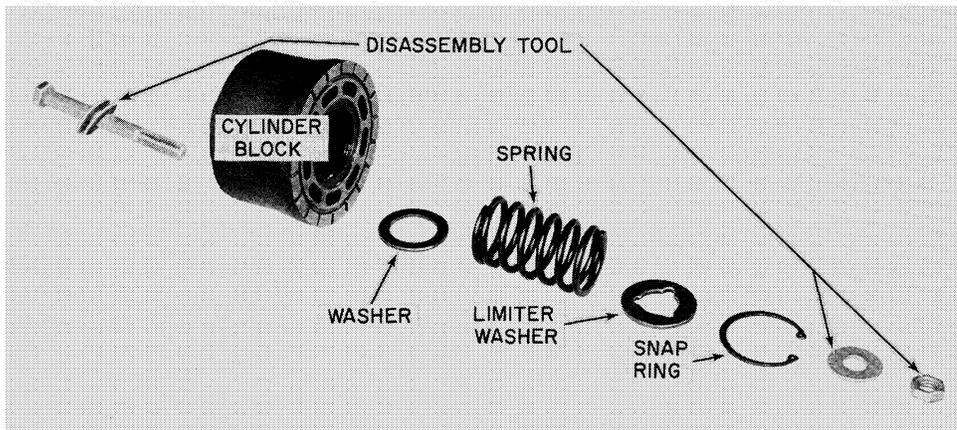

FIGURE 22
12. Figure 22 shows the cylinder block completely disassembled and in proper sequence. THE BOLT AND WASHER AT THE EXTREME LEFT AND THE NUT AND WASHER AT THE RIGHT ARE THE DISASSEMBLY "TOOLS", AND NOT A PART OF THE CYLINDER BLOCK SUB-ASSEMBLY.